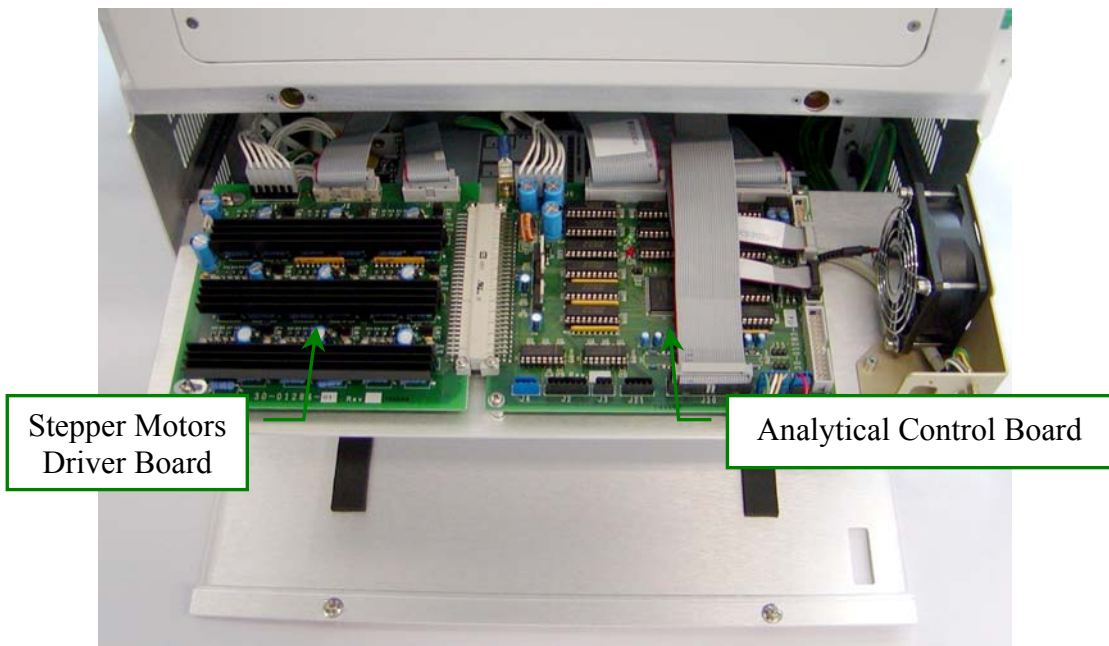

Fig. 54 - Electronic Rack
20. Unplug the J6, J8, J9, J10, J11 e J20 connectors and the ground wire from the Analytical Control Board (Fig. 54).
21. Unplug the J1, J2 e J4 connectors and the ground wire from the Stepper Motors Driver Board (Fig. 54).